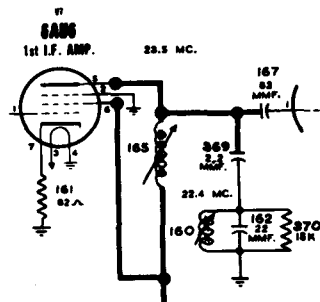

Fig. 7 — Stewart-Warner
**Improved sensitivity and sync stability (see Fig. 7).**